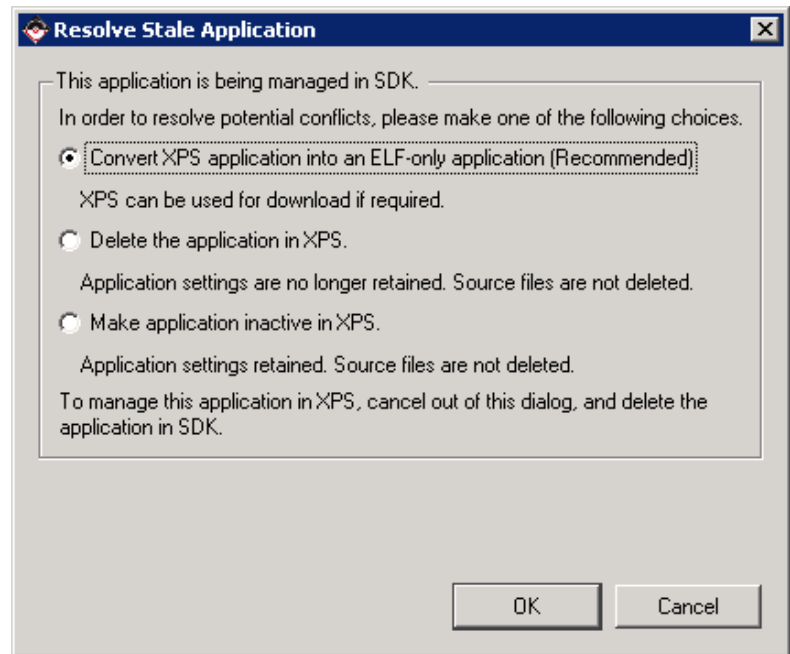

Figure 6-7: XPS ELF File Management Option
- Right click on the TestApp Peripheral project in XPS. You'll get the dialog shown in Figure 6-7.